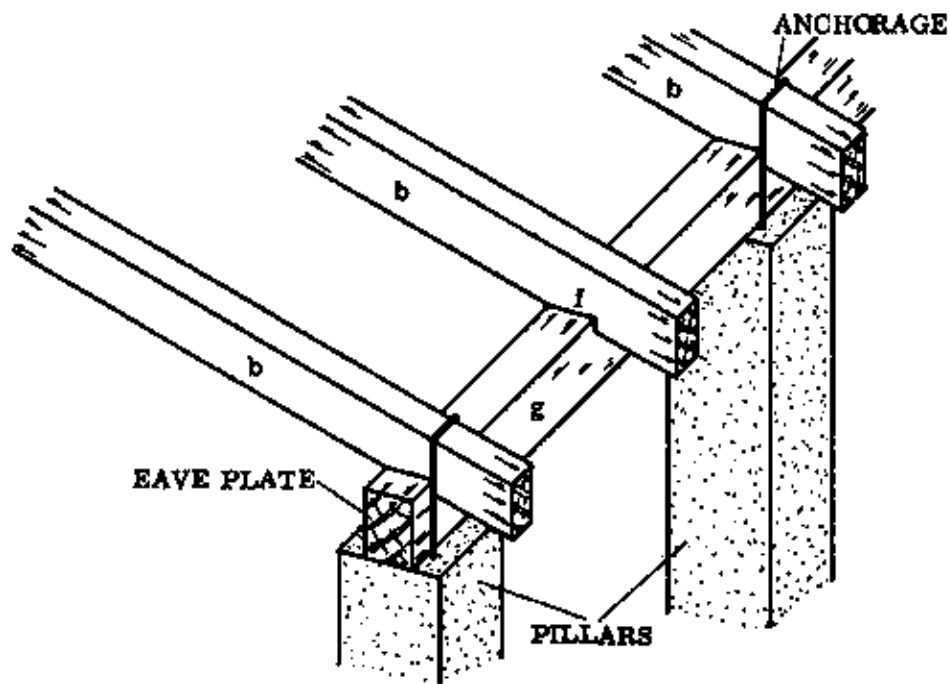

Fig. 2
- In an open fronted structure, the roof is supported by pillars on the open side, instead of by a wall. The plate which rests on the pillars and supports the rafters is called the “eave plate” (Fig. 2, g). The size of the eave plate should be about 5 x 7,5 to 10 cm.